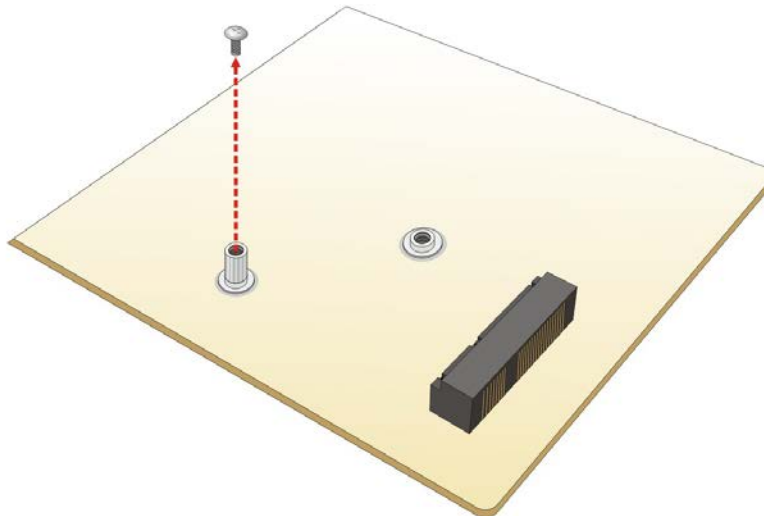

Figure 4-8: Removing the Retention Screw
Step 2: Remove the retention screw. Remove the retention screw as shown in Figure 4-8.